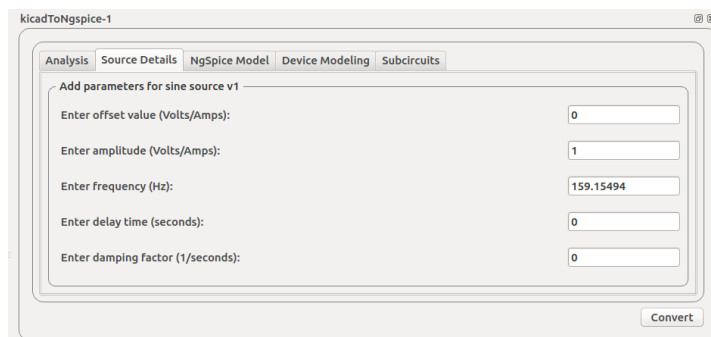

Figure 11.3: Source details: Low pass filter
3. The source details are given as in Fig. 11.3. The generated KiCad netlist is then converted to ngspice compatible netlist.